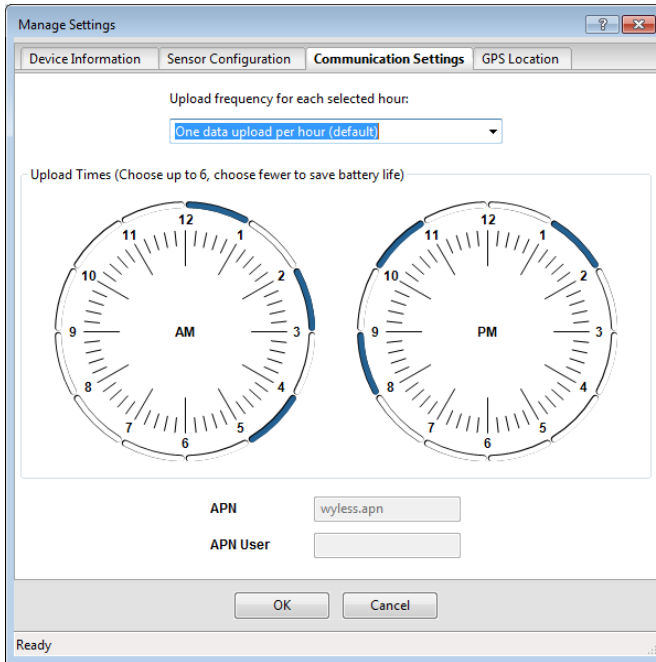

Figure 6 Communication Settings tab
- Navigate to the Communication Settings tab (Figure 6).